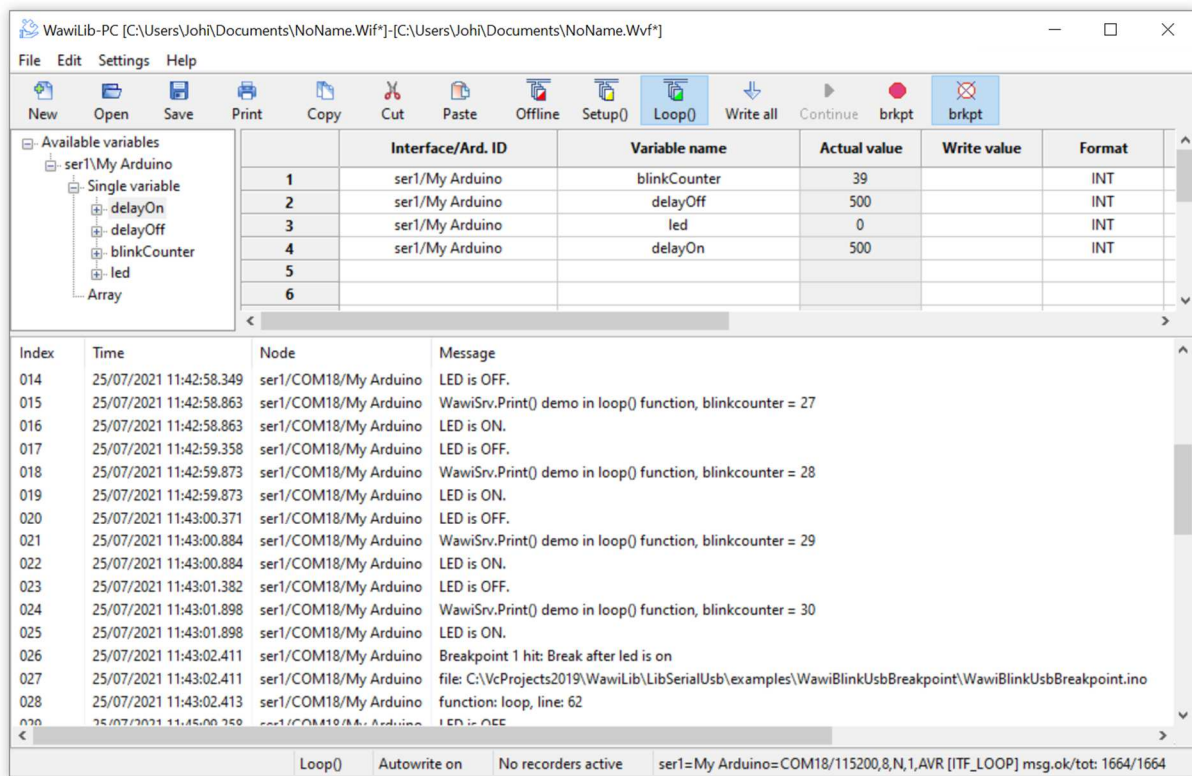

Fig 9.2. Variables of WawiBlinkUsbBreakpoint added to grid.
- ✓ Add the variables to the grid as indicated in Fig. 9.2.